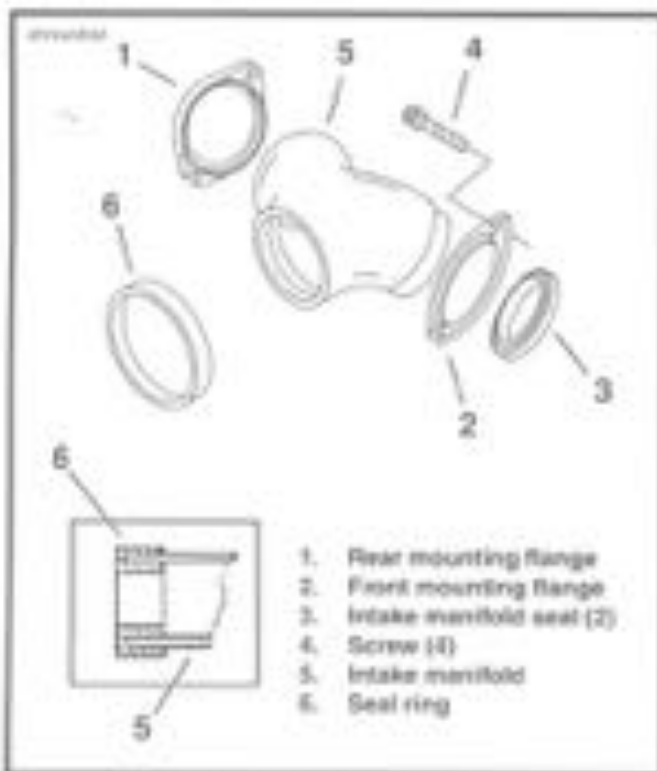

Figure 4-7. Intake Manifold
6. See Figure 4-7. Pull carburetor free of intake manifold (5). If removing intake manifold, remove four manifold mounting screws (4). Remove intake manifold, seal ring (6), mounting flanges (1 and 2) and two intake manifold seats (3).
1. See Figure 4-7. Place flanges (1 and 2) onto aluminum manifold (5).
2. Place intake manifold seals (3) onto each spigot of manifold with chamfered edge against flanges (1 and 2).
3. Place channel of seal ring (6) over inlet end of manifold.
4. Position manifold against intake ports of cylinder head, with slots and round holes in flanges (1 and 2) aligned with holes in cylinder head. Insert screws (4) through manifold flanges and loosely thread into tapped holes in cylinder head.
5. Lubricate only the inside surface of seal ring (6) that will be in contact with the carburetor. Also apply a light coat of lubricant to the spigot of the carburetor body. Push carburetor body into seal ring (6).
7. See Figure 4-7. Final tighten intake manifold screws (4) to 6-10 ft-lbs (8-14 Nm) torque.